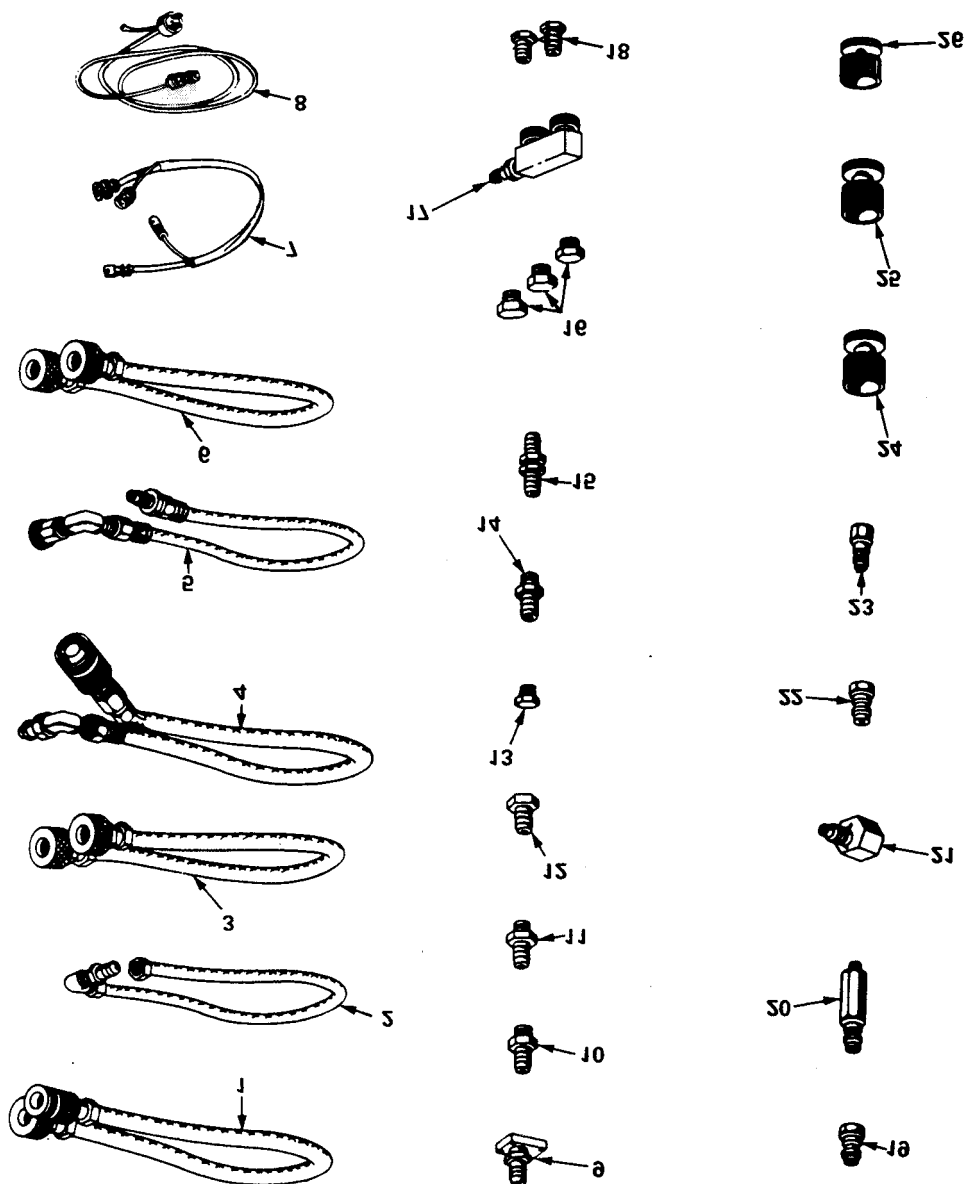

Figure 1-5.—Test Stand Accessories.
1. Using hose assembly 3 (figure 1-5), connect the top connection of the 500-to-750-mm calibration kit flowmeter 9 (figure 4-4) to test stand flow element connection NIP-4. Using hose assembly 6 (figure 1-5), connect the bottom connection of the calibration kit flowmeter to bell jar base coupling C-1.
NOTE: Hose assembly 3 (figure 1-5) and hose assembly 6 are used in calibrating all linear flow elements.
12. Disconnect hoses 3 and 6 (figure 1-5) from the calibration kit and test stand. Close oxygen supply cylinder valve V-6 and open system bleed valve V-5 to bleed the test stand. Secure all test stand valves.
1. Install nipple assembly 14 (figure 1-5) in bell jar bottom coupling C-1. Connect one end of hose 3 (figure 1-5) to the adapter and the other end to differential pressure connection NIP-7.
1. Remove hose assembly 3 and nipple assembly 14 (figure 1-5) from the bottom bell jar coupling C-1. Disconnect the opposite end of the hose from differential pressure connection NIP-7.